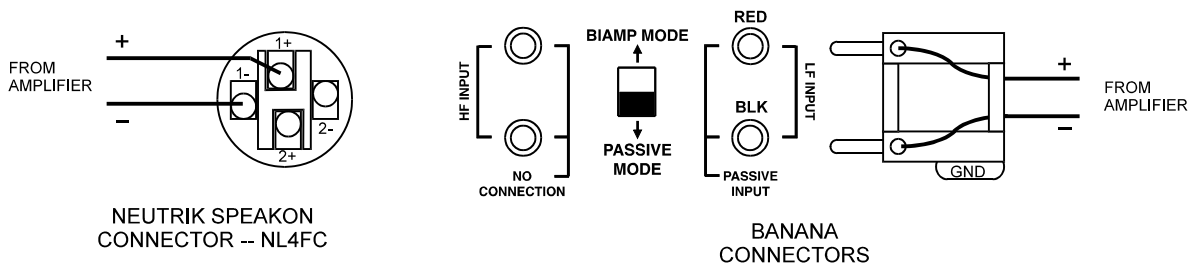

FIGURE 4: WIRING FOR SLS IN PASSIVE MODE
10.5.1 SLS PASSIVE MODE OPERATION (SEE FIGURE 4)